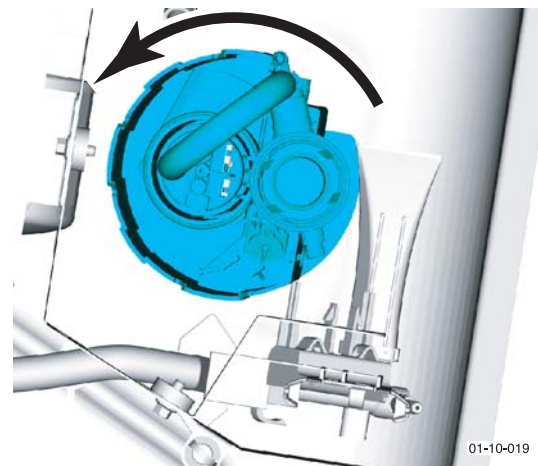

Figure 4
7. Using the service tool (Refer to '310-140 (Fuel Pump Install / Remove)', page 20-1-7), turn the fuel pump counterclockwise to release it from the mounting bracket. (Refer to Figure 4)